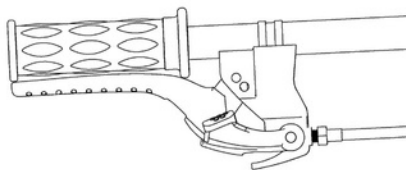

Figure 6
- When the user holds tight the clutch lever, the clutch is engaged and transmits engine power to the mini tiller and tilling blades begin to rotate. (See Fig.6)